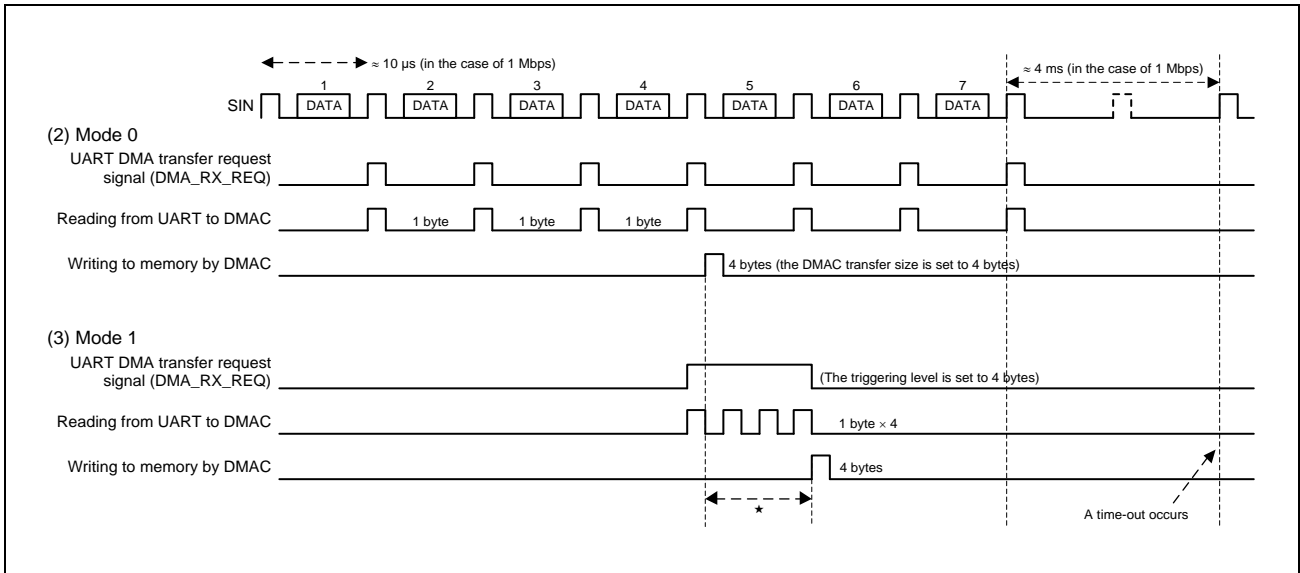

Figure 31.4-4 Example Comparison of Mode 0 and Mode 1 in DMA Transfer for Reception
Figure 31.4-4 shows an example of timing comparison of (2) Mode 0 and (3) Mode 1 listed in Table 31.4-3, List of DMA Modes of UART, in DMA transfer for reception. In this example, a period difference indicated by ★ is generated at the time when transfer of received data is completed.